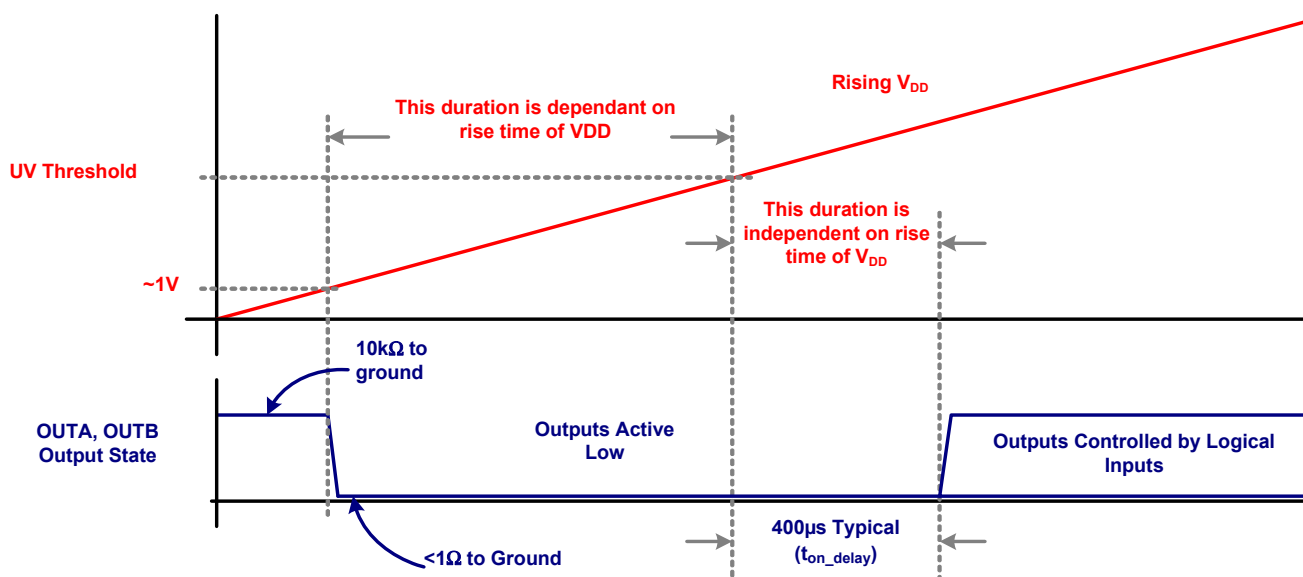

Figure 10. Start-Up Output Characteristic
- A 400µs delay further inhibits the release of the output state when the UV positive going threshold is crossed. See Figure 10 on page 10.
The start-up sequence for input threshold Options A, B, and C prevents unexpected glitches when V_{DD} is being turned on or turned off. When $V_{DD} < \sim 1V$, an internal $10k\Omega$ resistor connected between the output and ground helps keep the gate voltage close to ground. When $\sim 1V < V_{DD} < UV$, both outputs are driven low while ignoring the logic inputs. This low state has the same current sinking capacity as during normal operation, and it ensures that the driven FETs are held off even if there is a switching voltage on the drains that can inject charge into the gates using the Miller capacitance. When $V_{DD} > UVLO$, and after a $400\mu s$ delay, the outputs now respond to the logic inputs. See Figure 10 for complete details.